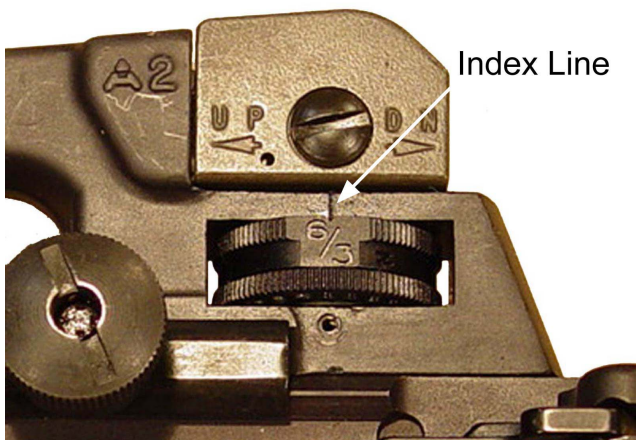

Figure 2-19. Index Line
- c. If necessary, rotate the elevation knob in the UP (up) direction clockwise until the 6/300 yard mark on the dial aligns to the index line located beneath the windage screw. Refer to Figure 2-19.